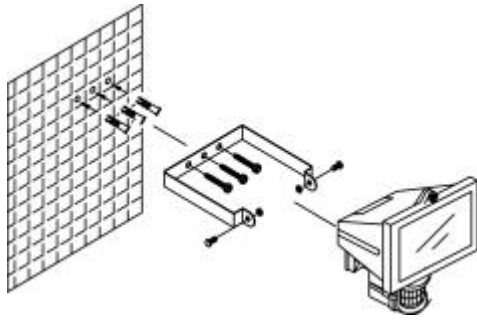

FIGURE 9
- (1) Switch off the power source or wall switch.
- (2) Remove the mounting bracket from the floodlight. Drill the wall and screw the bracket onto the wall using suitable plastic wall plugs and screws (not included). Check that the bracket is securely fitted on the wall (FIGURE 9).